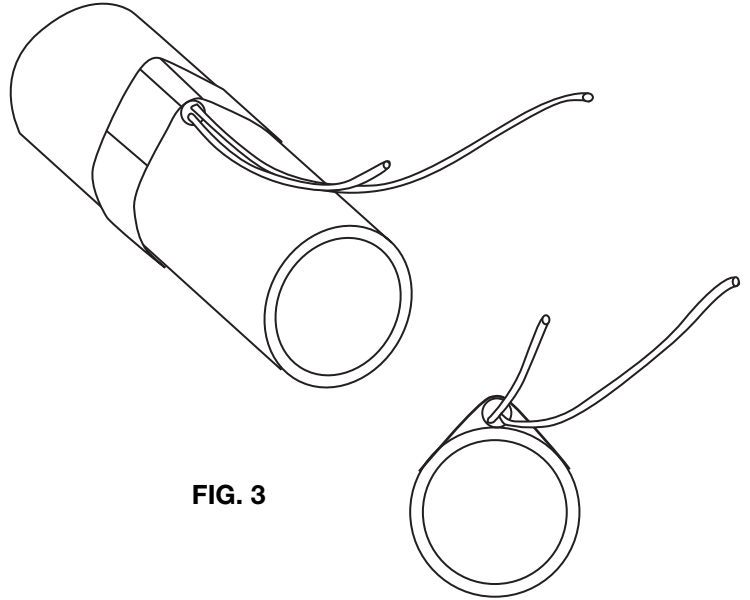

FIG. 3
- Strap the cylindrical sensor to the pipe as shown in Fig. 3.